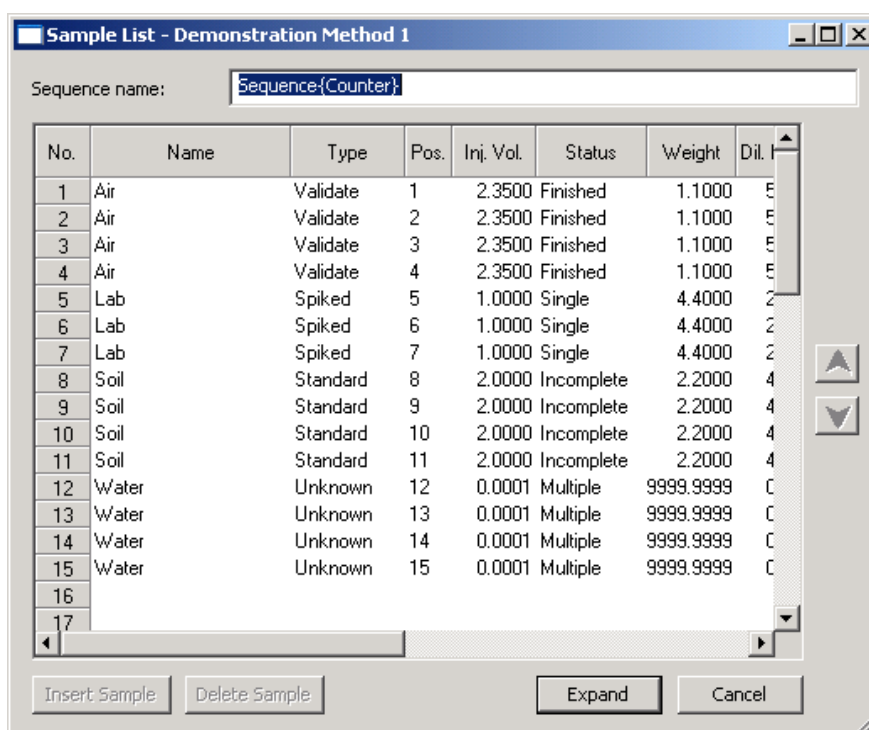

Figure 7: Sample List
- If no sequence is selected, then the sequence name specified in the Sample List window (see Figure 7) will be used.